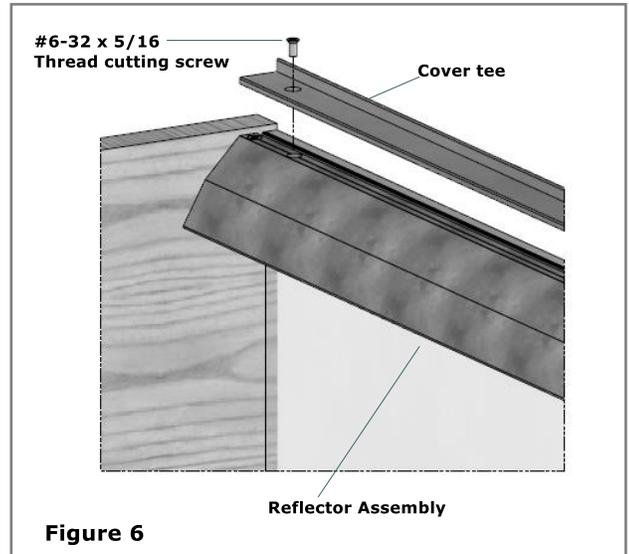

Figure 6
- Install the cover tee (optional) over the top of the reflector and attach through the extruded screw slot that runs the length of the reflector shell. Use the #6-32 x 5/16" (8mm) thread cutting screws (included in the accessory package). **See Figure 6.**